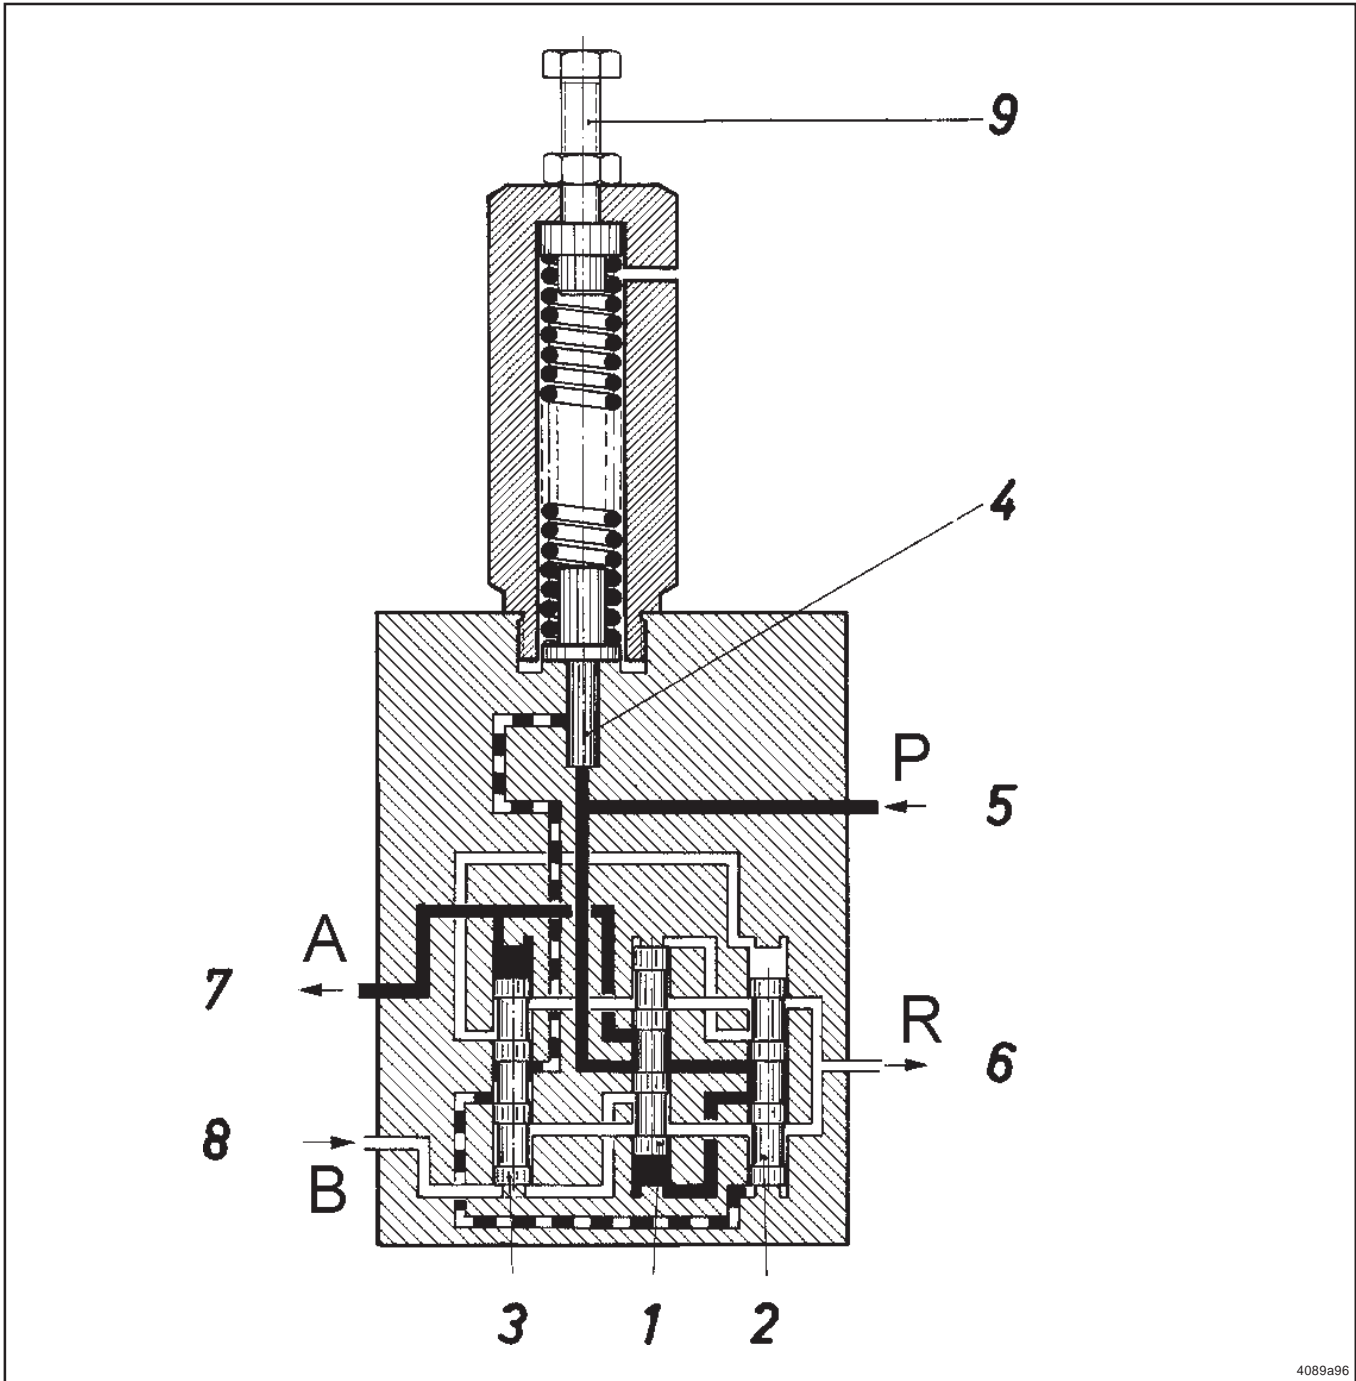

Fig.1: operation of change-over valve DU1
The figures 1 and 2 show a schematic illustration of the operation of the DU-1 change-over valve. The lines marked in black represent the pressure lines and the white lines the pressure relief lines.
The central lubrication pump supplies the lubricant to the change-over valve via the pressure line (5). The lubricant travels to the lubricant metering devices via the preselecting piston (2), the change-over piston (1) and the main line (7), while the main line (8) is connected to the reservoir of the central lubrication pump via the pressure relief line (6) and is thus pressureless (see Fig. 1).